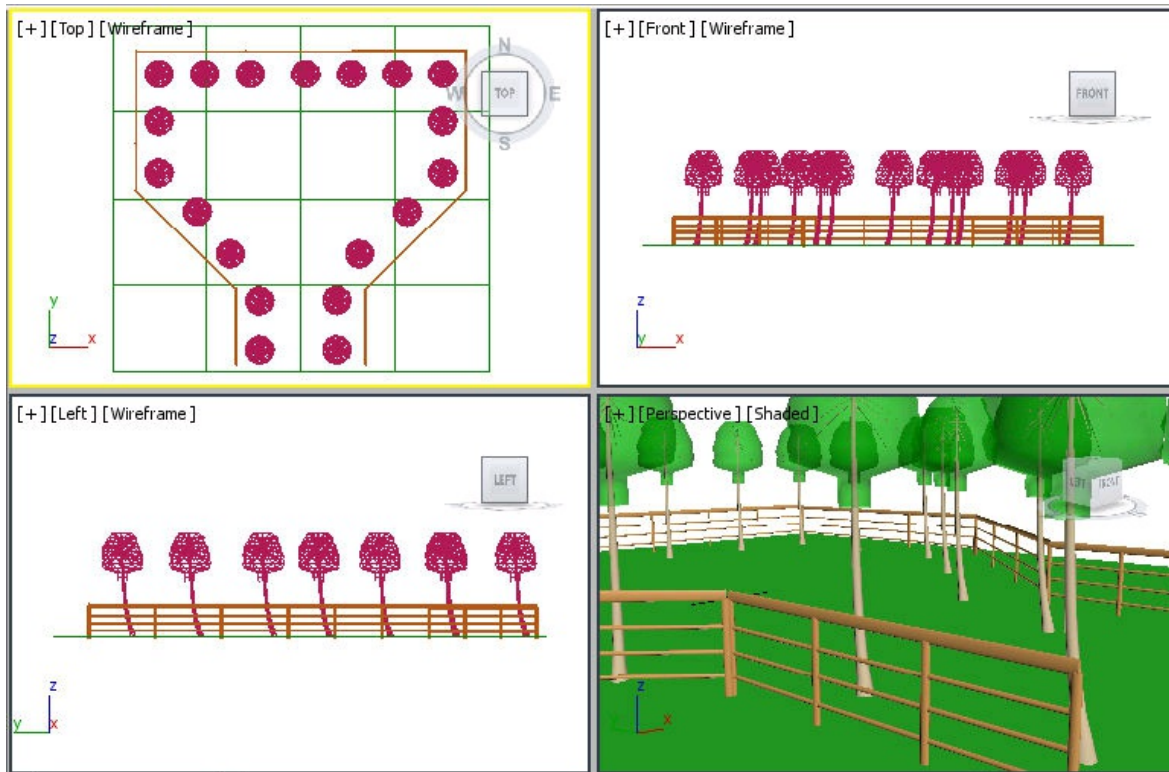

Figure 4-64 Multiple copies of tree01 created and aligned in viewports
7. Create multiple copies of *tree01* in the Top viewport and align them using the **Select and Move** tool, as shown in Figure 4-64.